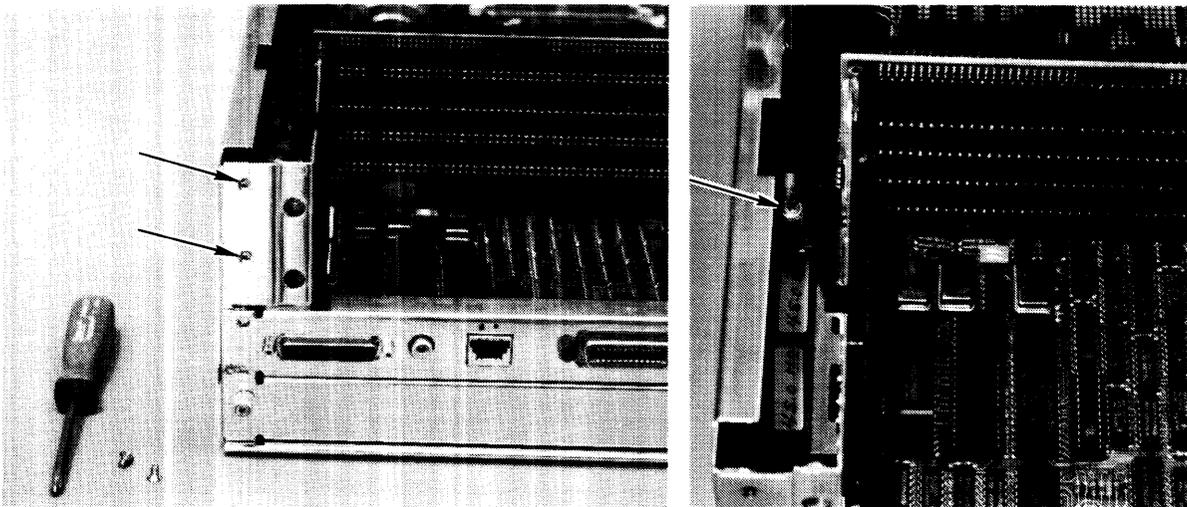

Figure 2-13. DIO Card Cage Screws
3. Remove the screws holding the card cage to the chassis. Refer to Figure 2-13.